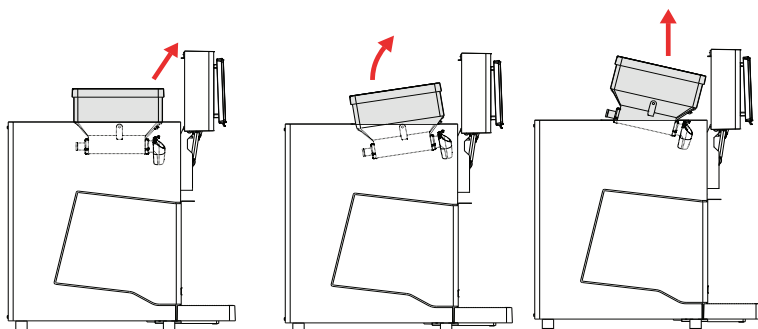

Figure 3-3
4. Pull the front of the ingredient container up and slightly forward so that the ridge is just above the top, (1) (see figure 3-3).